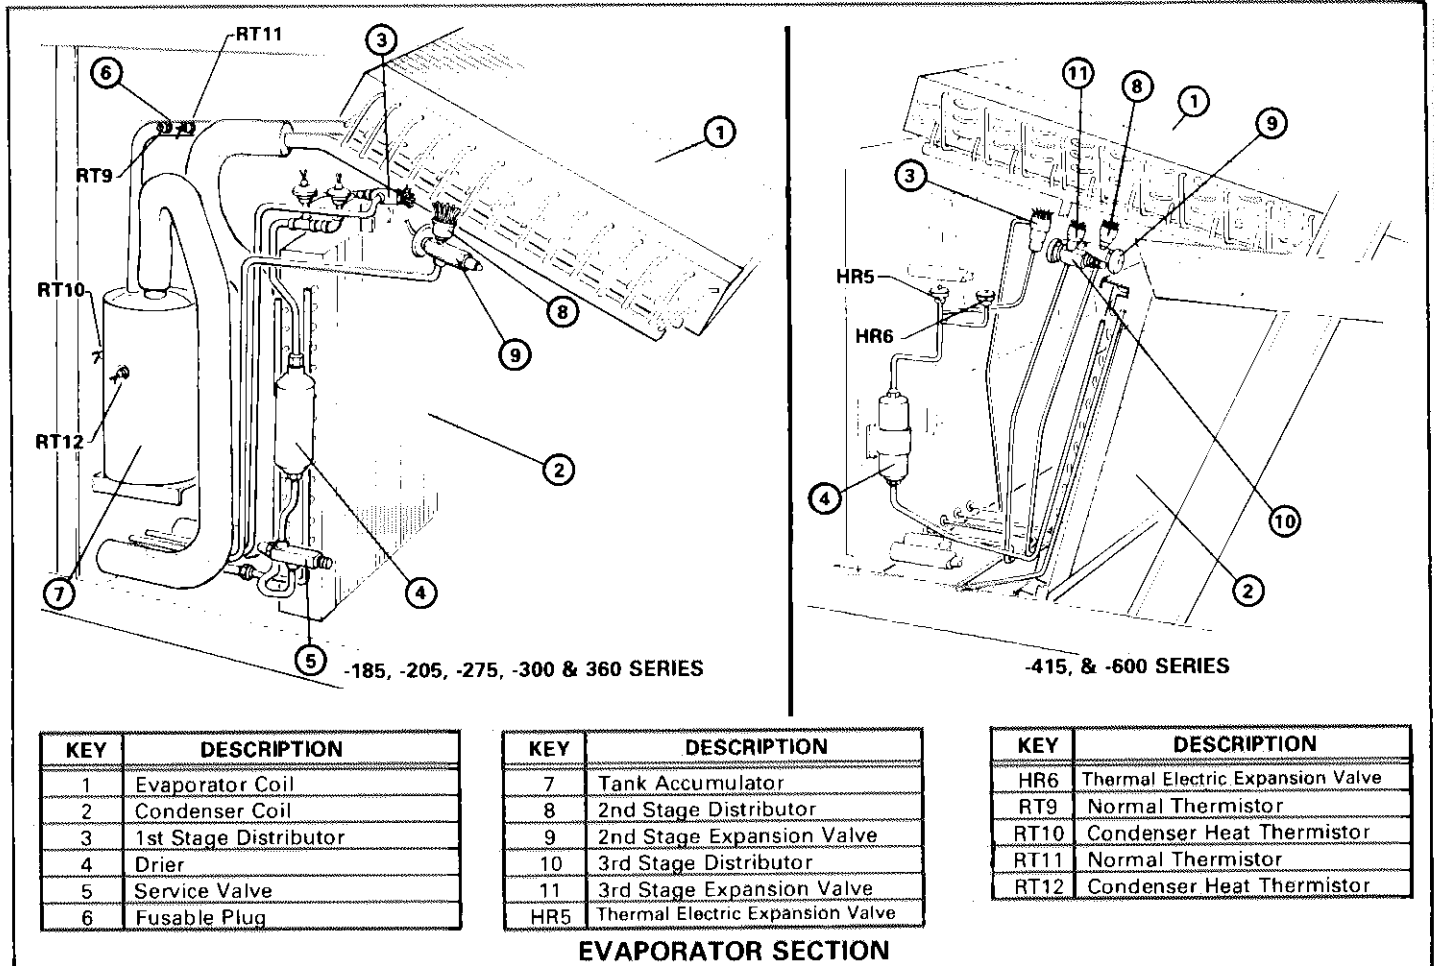

FIGURE 74
- 2 - This thermistor transfer opens the expansion valve and allows refrigerant to flow into the accumulator. At this point a coil located in the hot deck now becomes the condenser and the heat which was previously expelled to the outside is added to the hot deck. Figure 74 identifies the thermistor and expansion valves.